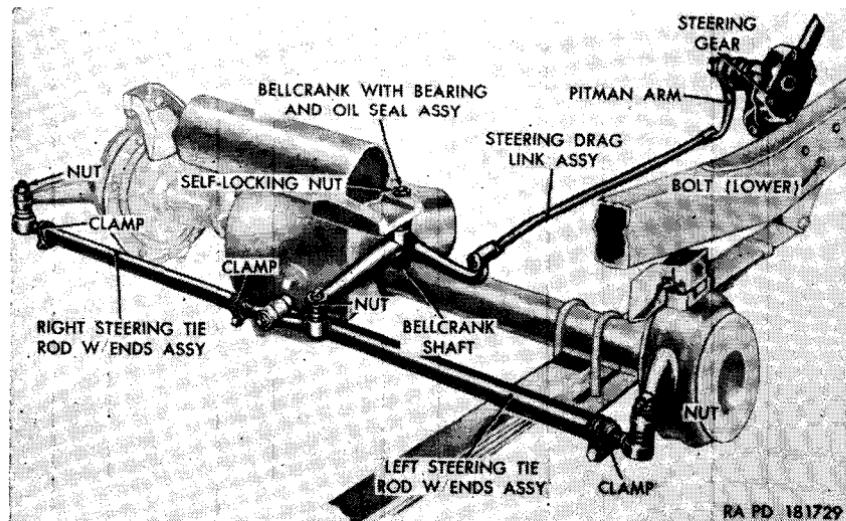

Figure 107. Steering system linkage.
a. *Description.* The steering system (fig. 107) comprises the steering gear assembly, pitman arm, steering drag link assembly, steering bellcrank assembly, and two steering tie rod with
(figs. 107, 108, and 109)
- (1) Remove the cotter pin from the axle end of the drag link assembly (fig. 107). Unscrew, but do not remove, the ball seat axle end adjusting plug. Lift the drag link assembly off the ball of the bellcrank.
- (2) Remove the cotter pin from the gear end of the drag link assembly (fig. 107). Unscrew, but do not remove,